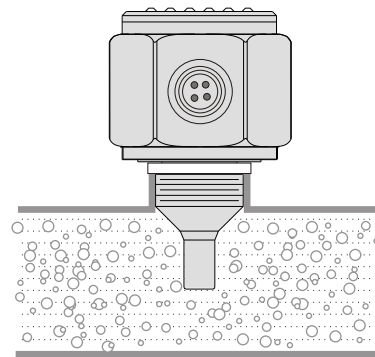

Fig. 2
2. Make sure that the pipe is bubble-free for proper alarming.(Fig. 2)